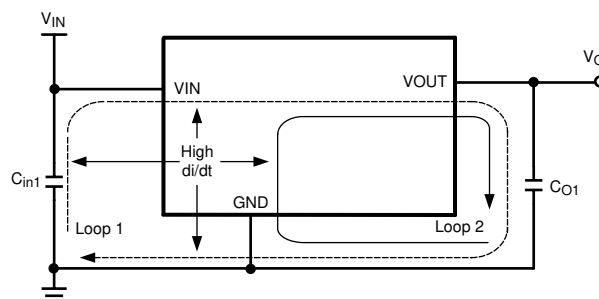

Figure 9-1. Critical Current Loops to Minimize
From an EMI reduction standpoint, it is imperative to minimize the high di/dt paths during PCB layout as shown in Figure 9-1. The high current loops that do not overlap have high di/dt content that will cause observable high frequency noise on the output pin if the input capacitor (C_{IN1}) is placed at a distance away from the LMZ22005. Therefore place C_{IN1} as close as possible to the LMZ22005 VIN and PGND exposed pad. This will minimize the high di/dt area and reduce radiated EMI. Additionally, grounding for both the input and output capacitor should consist of a localized top side plane that connects to the PGND exposed pad (EP).